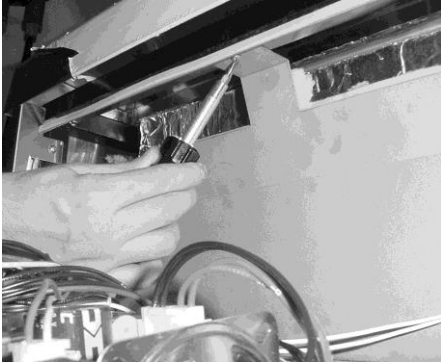

Figure 2-3
2. Using a Phillip's head screwdriver, remove the screws securing the inner heat shield and remove from unit. Figure 2-3.